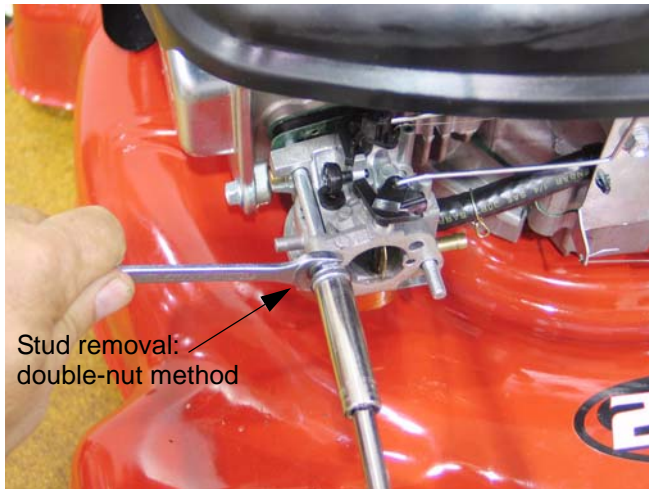

Figure 3.11
- 2b. Double-nut the studs for removal, with a washer between the serrated faces of the nuts. See Figure 3.11.